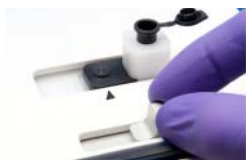

Figure 4-10: Moving Drop Holder to Read Position
8. Move the slider to the right to move the drop holder to the read position (Figure 4-10).